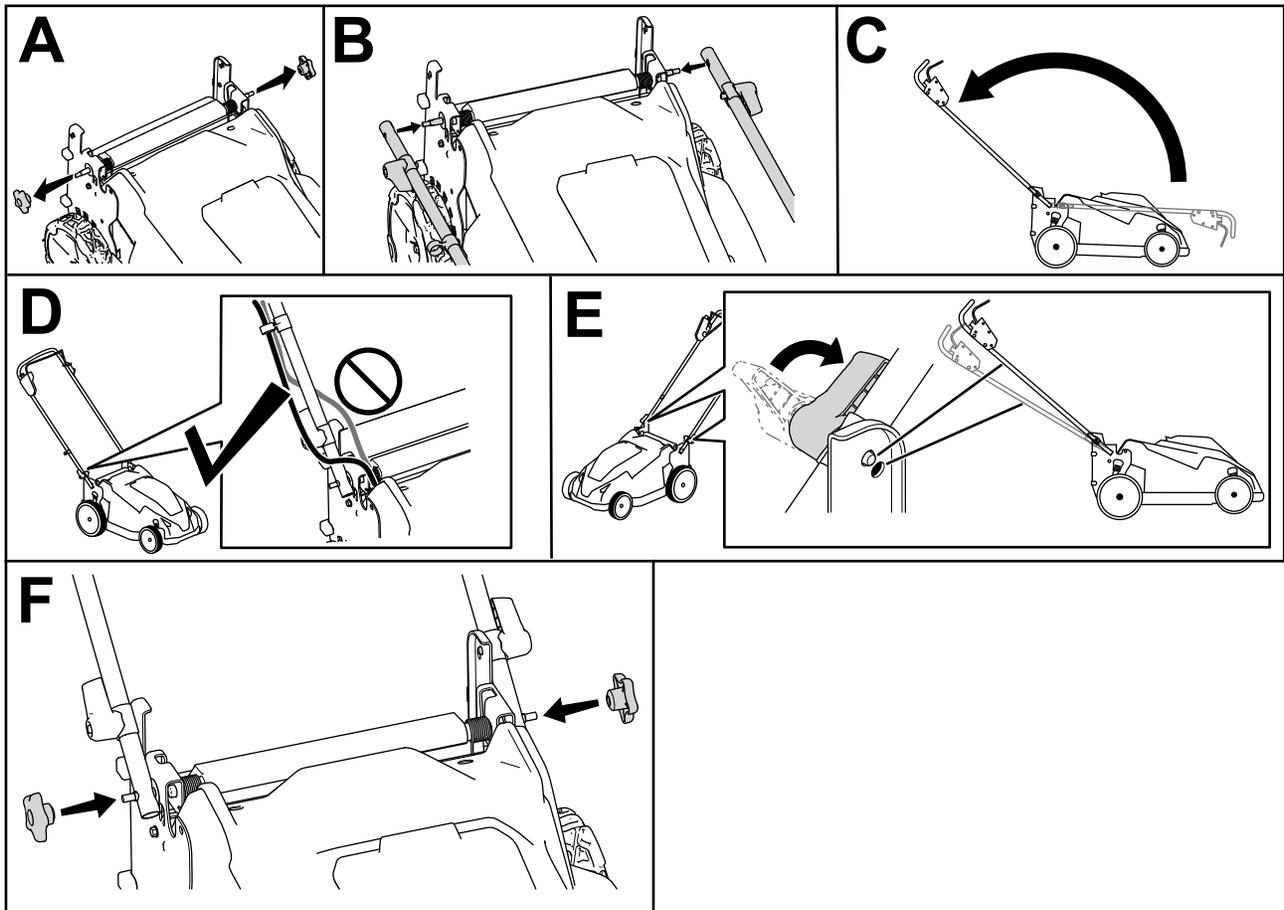

Figure 3
1. Remove the handle knobs (A of Figure 3).
2. Using the holes at the ends of the handle, attach the handle to the machine (B of Figure 3).
3. Move the handle rearward to the operating position (C of Figure 3).
4. Ensure that the cables are routed in front of the handle (D of Figure 3).
5. Engage the handle locks until the pin clicks in place to lock the handle into the operating position (E of Figure 3).
6. Secure the knobs to the handle bolts to secure the handle (F of Figure 3).